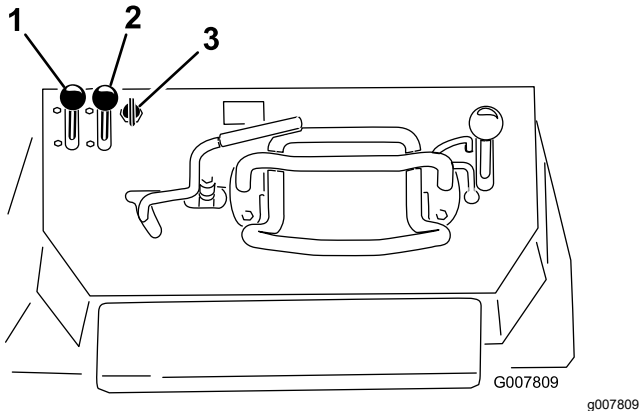

Figure 19
1. Move the throttle lever midway between the SLOW and FAST positions (Figure 19).
2. Move the choke lever to the ON position (Figure 19).
- For electric-start machines, turn the key to the ON position (Figure 19). When the engine starts, release the key.
4. Gradually move the choke lever to the OFF position (Figure 19). If the engine stalls or hesitates, engage the choke again until the engine warms up.
5. Move the throttle lever to the desired setting (Figure 19).
2. Move the throttle lever to the SLOW position (Figure 19).